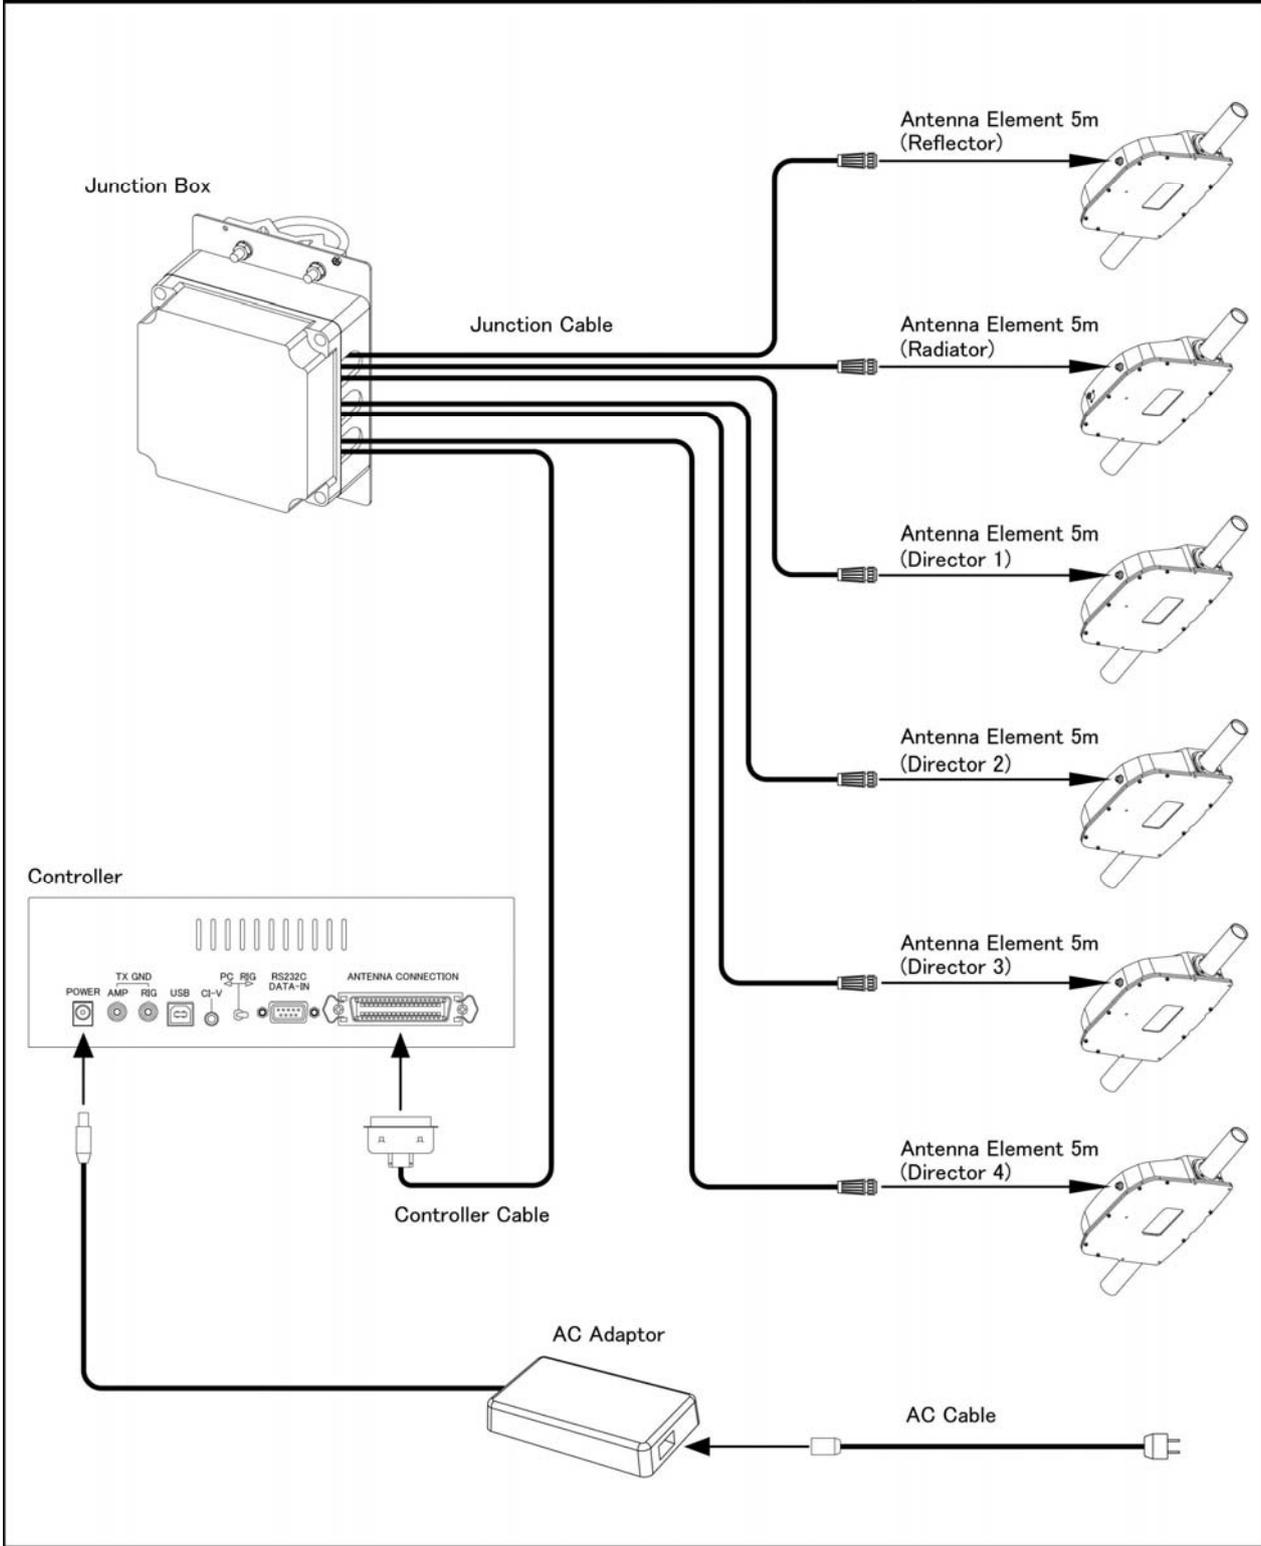

Figure 2
* See Figure 2 (Figure2 doesn't show details.)
- * See Figure2 showing how to connect AEU • Junction Box • Junction Cable • Controller Cable • Controller.
[See Figure2]